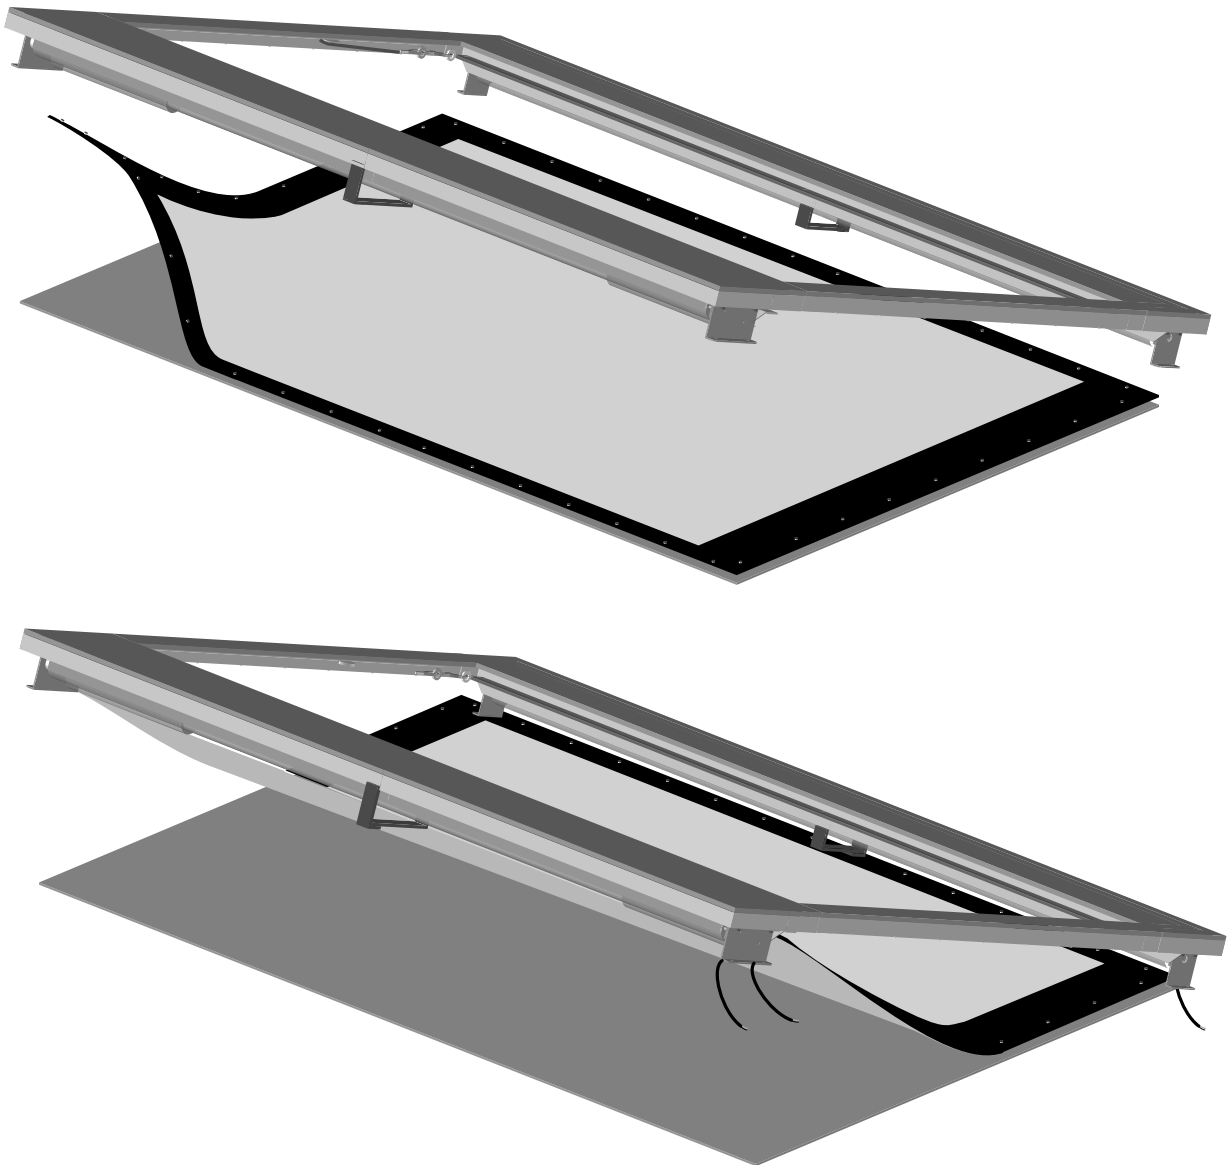

Figure 6: Snapping screen onto frame
2. While lifting the frame with one hand, snap the screen into the frame. Gently allow the screen to stretch onto the snaps. **Do not** jerk the material, as it can rip. See Figure 6. Attach the snaps on the top corners and top horizontal first, then lift the frame to a vertical position to finish attaching the rest of the snaps.